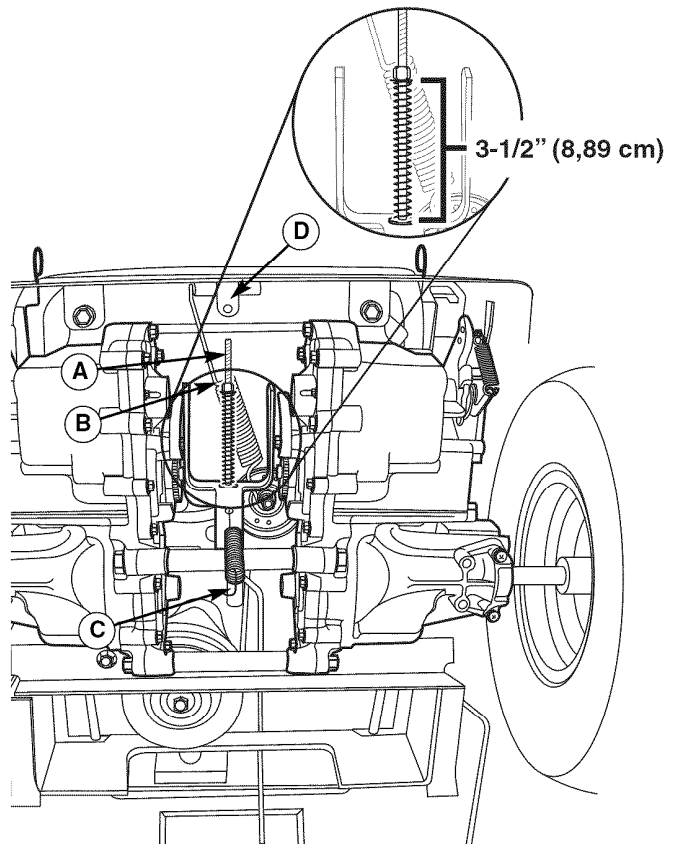

Figure 38. Brake Adjustment
4. Locate the brake rod (A, Figure 38) and adjustment nut (B).
5. Measure the parking brake spring. Its compressed length, with the parking brake lever in the ENGAGE position, should be 3-1/2" (8,89 cm). Adjust the spring length by turning the adjustment nut (B), if necessary.